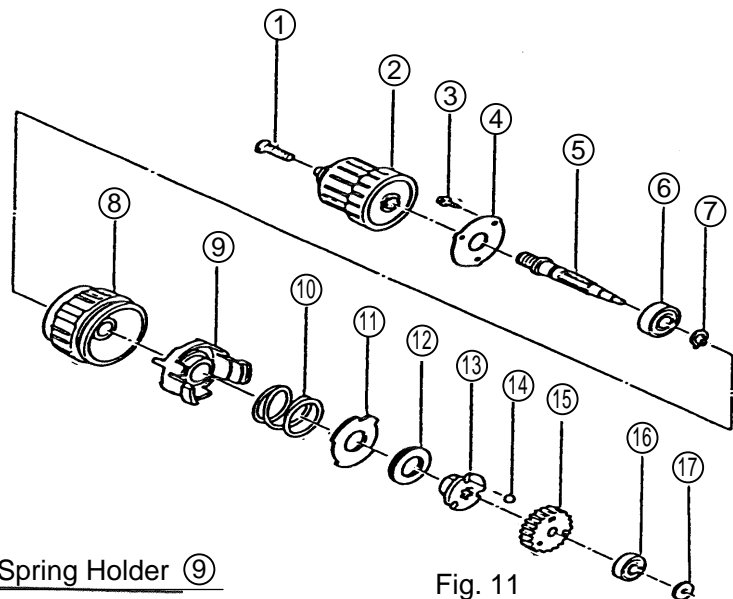

Fig. 11
(3) Reassembly of the Clutch Portion:
- [1] Beginning with the M5 x 17 Flat Hd. Screw (Left Hand) ①, assemble the Cap ⑧. (Fig. 11)
- [2] To the parts assembled in Para. [1], above, assemble the parts from the Spring Holder ⑨ to the Washer ⑳ in proper sequence.